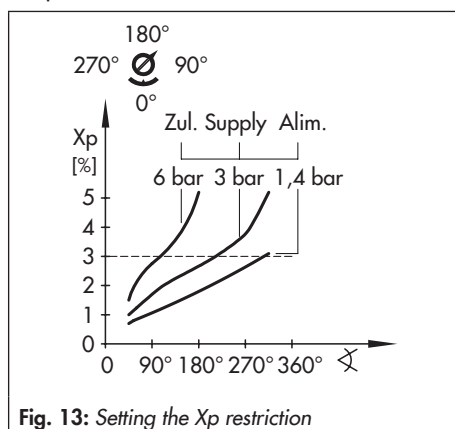

Fig. 13: Setting the Xp restriction
On setting the Xp restriction, observe the relationship with the supply air pressure as indicated in Fig. 13. The preset value of Xp should be approximately 3 %.
- ➔ The adjustment range of the Xp restriction is restricted by the pointer and stop to one turn (Fig. 13). Do not remove the pointer.